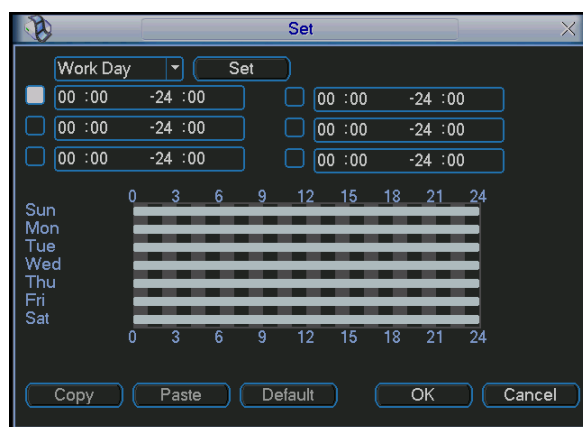
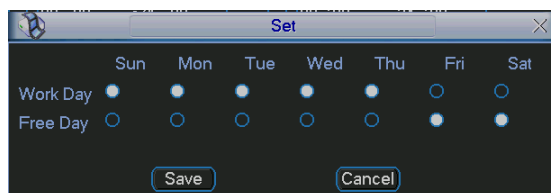

Figure 4-20
Figure 4-21
- Period: Click set button, you can see an interface is shown as in Figure 4-20. Here you can set for business day and non-business day. In Figure 4-20 , click set button, you can see an interface is shown as in Figure 4-21. Here you can set your own setup for business day and non-business day.